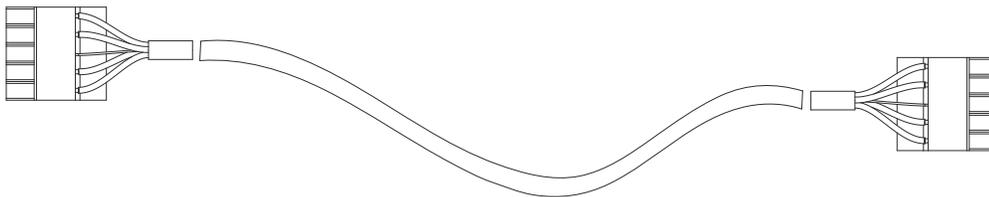

Figure 29: Assembled Phoenix-to-Phoenix Cable
4. Repeat the previous steps and attach the other end of the cable to another Phoenix 5-pin female cable mount connector (Figure 29).